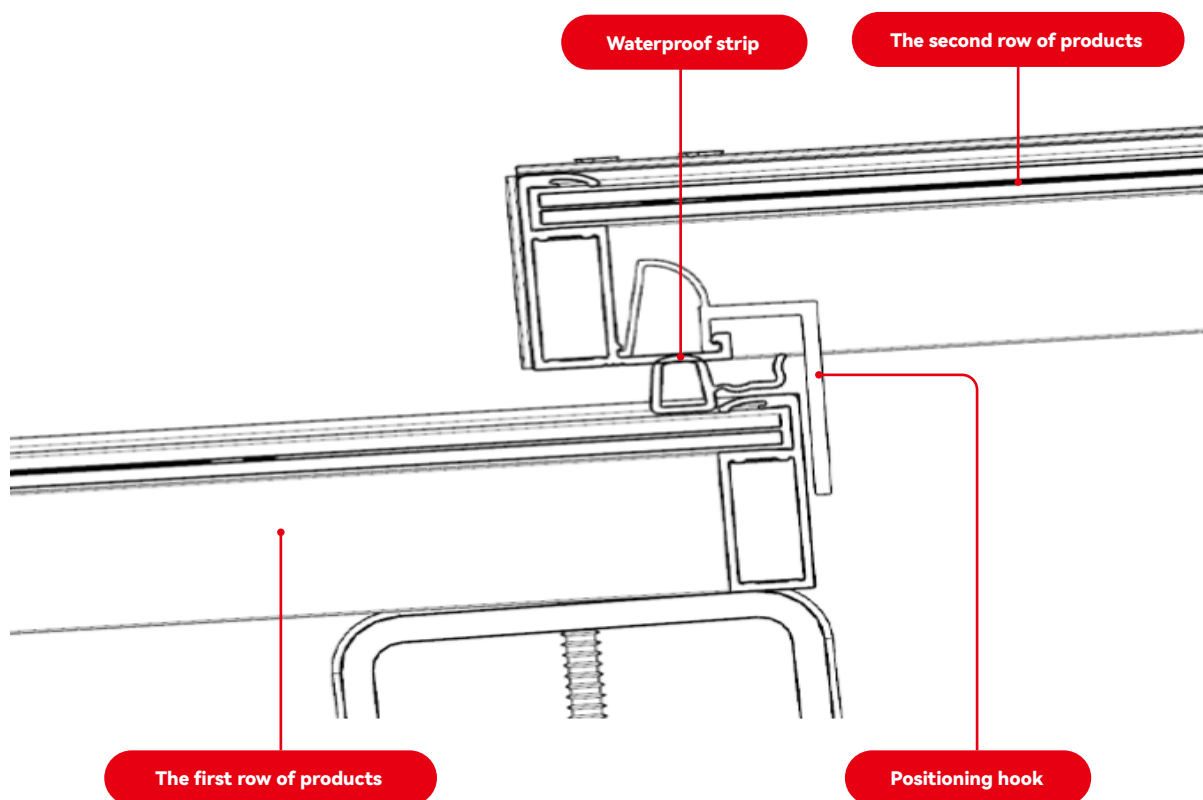

FIGURE 25
- Following the installation method of the first product in the first row, place mounting support and bottom fastener assemblies on the third row of purlins, and place upper fastener assemblies on the fourth row of purlins. Then, place the products with the installed positioning hooks on top of the first row, using positioning hooks for positioning in a lap joint manner. (Figure 25).